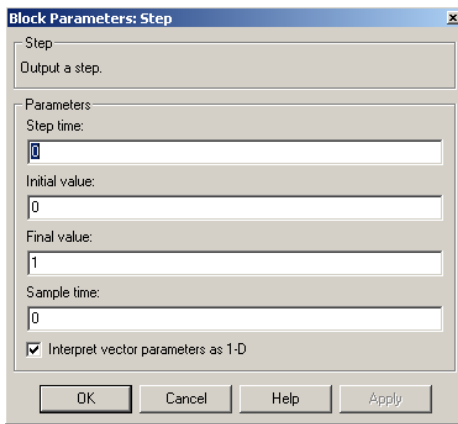

Figure 6. Step Function Setup
2.2.2 Step Input. Double click on Step function block and a window will appear as in Figure 6 to set the parameters for the step function that will be applied to the input of the system under test. Set the following parameters: Step time=0; Initial value=0; Final value=1; Sample time=0.